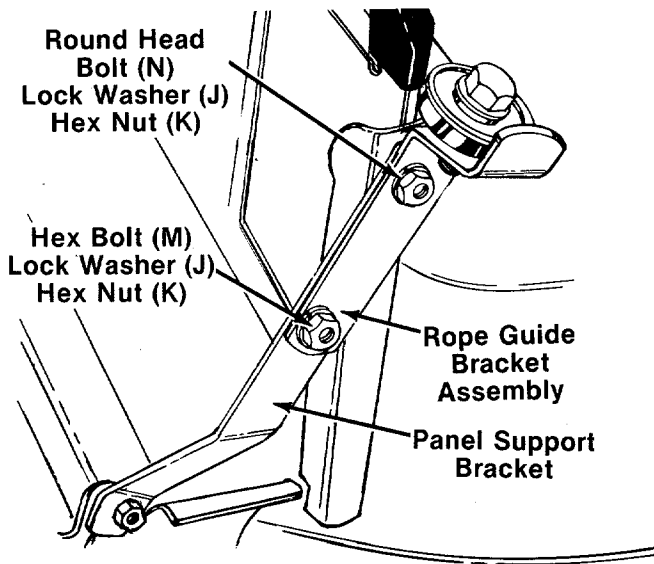

FIGURE 15.
4. Place the rope guide bracket assembly in position against the panel support bracket as shown in figure 15. Secure bottom hole in rope guide bracket to panel support bracket with hex bolt (M), lock washer (J) and hex nut (K), finger tight only.
5. Secure top hole of rope guide bracket assembly to panel support bracket and catcher panel using round head bolt (N) (head of bolt must be to the inside of the catcher panel), lock washer (J) and hex nut (K). See figure 15.